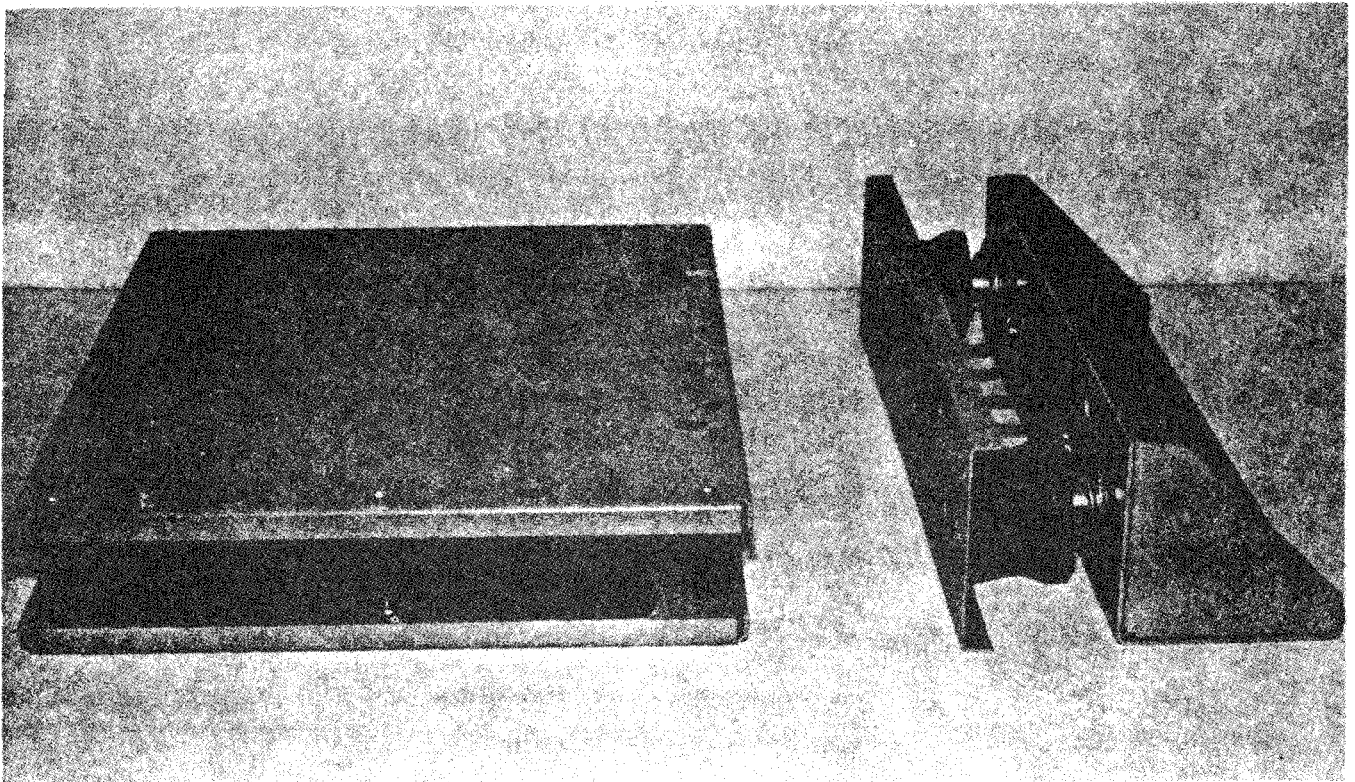

Figure 1-2. Electrical Equipment Shock Mount Base MT-3399/U
1-19. The MT-3399/U (figure 1-2) is used in shipboard installation as a resilient shock mounting base on which the units of the AN/URT-23(V) are stack mounted. It consists of an open frame structure attached to a flat mounting plate through vibration isolators. These isolators protect the units by damping shock and/or vibration of continuous or intermittent origin. Brackets are attached to the sides of each unit to enable the units to be secured to each other and in turn to the MT-3399/U. The MT-3399/U is anchored to the deck of the ship or some other suitable horizontal mounting surface. In addition, a sway brace secures the top of the stack to the bulkhead of the ship. This limits lateral motion, and thus, reduces the required sway space. The sway brace also prevents the stack from tilting when an equipment chassis is withdrawn from its case. The MT-3399/U and mounting brackets are constructed of aluminum to reduce the equipment's magnetic signature, thus making the mounting system suitable for use in configurations where the use of magnetic material is critical (such as on mine-sweepers).